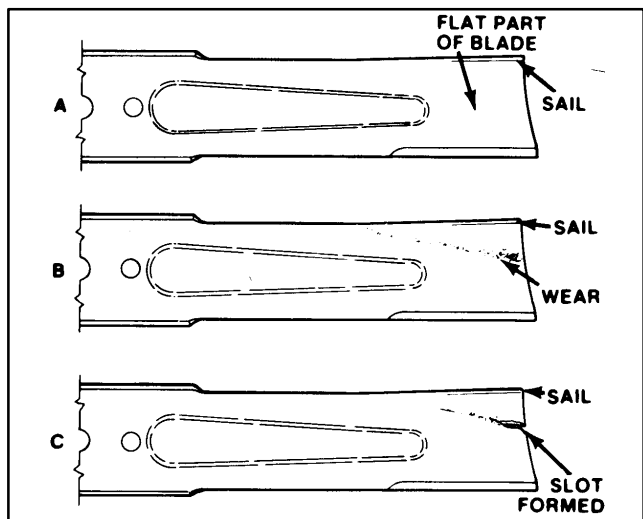

Figure 26
(Fig. 26 – 27)
2. Examine cutting ends of the blade carefully, especially where the flat and curved parts of the blade meet (Fig. 26–A). Since sand and abrasive material can wear away the metal that connects the flat and curved parts of the blade, check the blade before using the machine. If wear is noticed (Fig. 26–B), replace the blade: refer to Removing Cutter Blade.
If blade is allowed to wear, a slot will form between the sail and flat part of the blade (Fig. 26–C). Eventually a piece of the blade may break off and be thrown from under the housing, possibly resulting in serious injury to yourself or bystander.